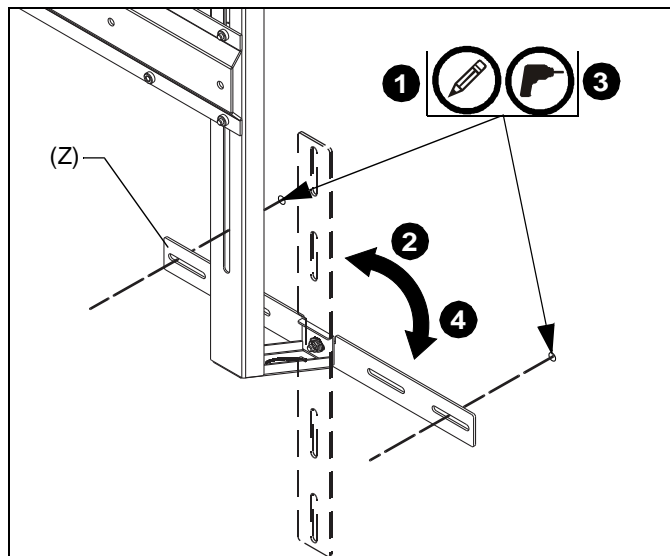

Figure 13
- Mark the wall through the lower wall bracket (Z) on each upright assembly. (See Figure 13)
- Drill a 1/2" pilot hole at each marked location. (See Figure 13)